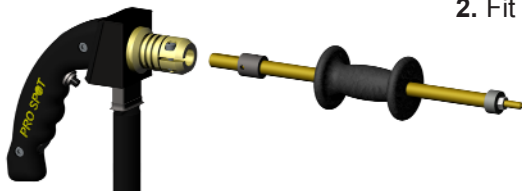

Figure 6.18
2. Fit Single-Sided gun with the spot hammer (*fig. 6.18*).